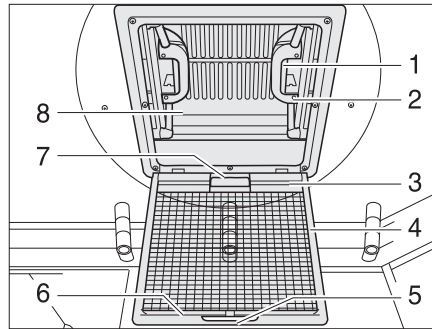

Fig. 84 Skylight with snap latch
- Pull on the handle (Fig. 84,5).
- Fold the insect screen (Fig. 84,4) downwards.
- Push the spring-loaded latch (Fig. 84,1) towards the inside of the skylight (Fig. 84,8). At the same time use the handle (Fig. 84,2) to press the skylight upwards.
- Swing the insect screen upwards (Fig. 84,4) until it latches in place.
- Using both handles (Fig. 84,2), pull down the skylight (Fig. 84,8) with force until the two snap latches (Fig. 84,1) lock into place.
- Pull the handle (Fig. 84,7) of the blind and hook the hook rail (Fig. 84,3) into the retainer (Fig. 84,6) on the insect screen.
- Release the hook rail (Fig. 84,3) from the retainer (Fig. 84,6) and feed the blind back slowly.